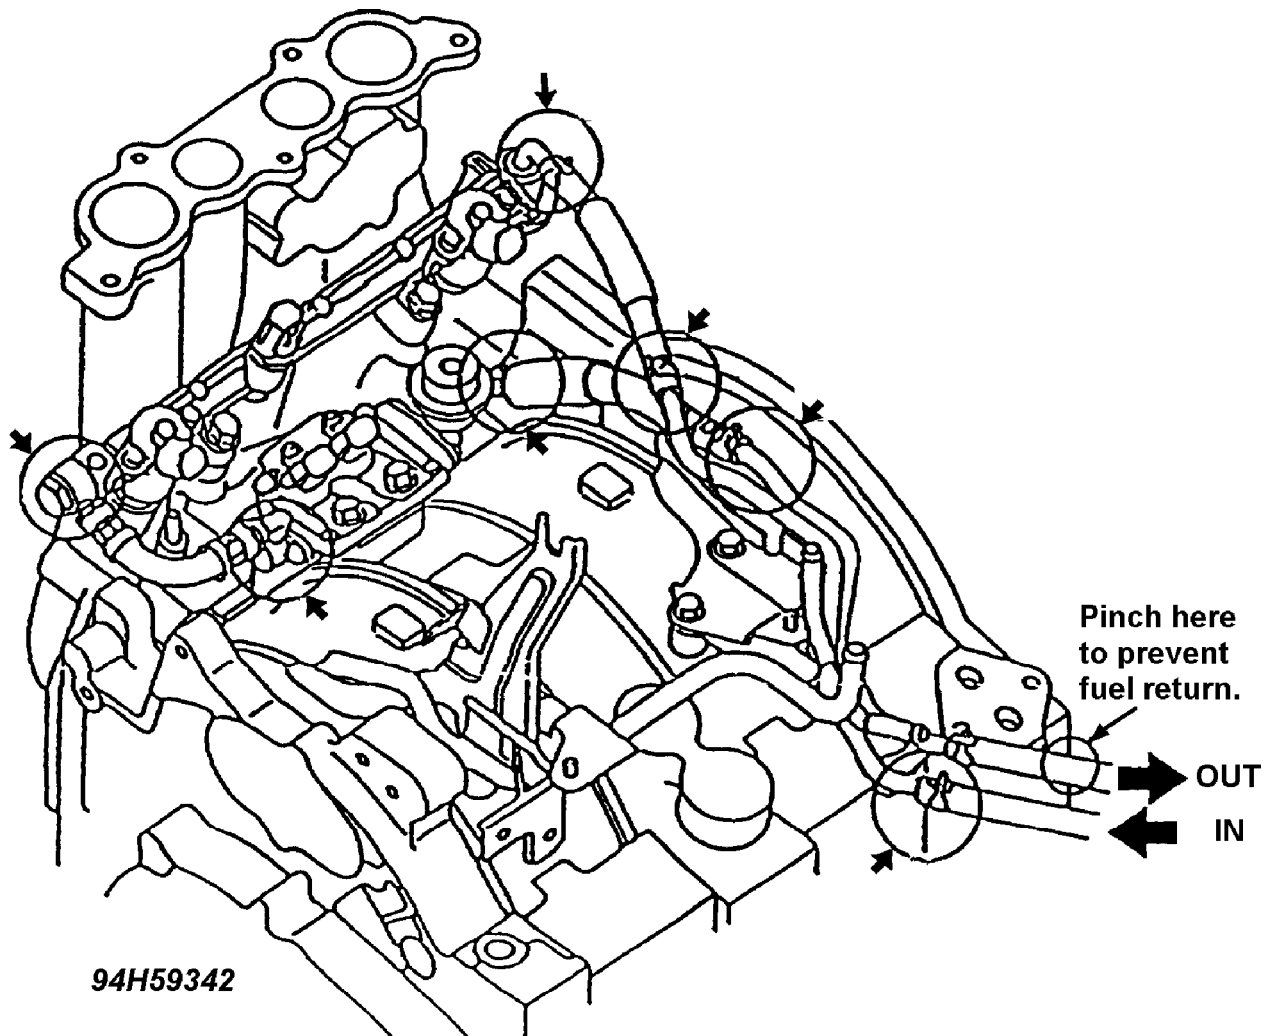

Fig. 63: Seven Fuel Leakage Areas
3. Pinch the fuel return hose with a suitable tool to stop any fuel return to the tank. See Fig. 63.
- \* Check for fuel leakage visually and by odor. Carefully check the positions (seven) indicated by the arrows in Fig. 63. If fuel leakage is found, repair the problem. Once repaired, check again according to the above steps.